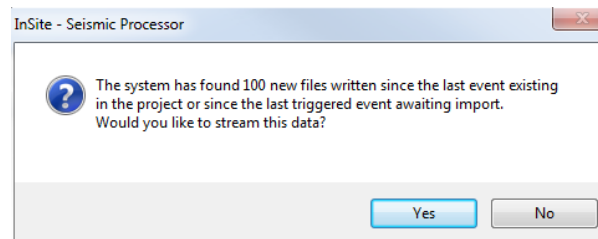

Figure 13-18: Dialog launched after search for new files to leach is complete. Pressing 'Yes' begins the triggering process.
15. Press 'Start Leaching Data' to begin data triggering. This will initialise a search for files to be triggered; only files that have been recorded for a later time (time stamp as read for each different file type) than the most recent event already existing in the project (PCF) will be available for leaching. When the file search is complete, a window will pop up (Figure 13-18) giving the number of new files available to leach; pressing 'Yes' on this Dialog will commence triggering of the available files. This Dialog will not launch if the SEGY settings 'Prompt before streaming new data' option is unchecked.